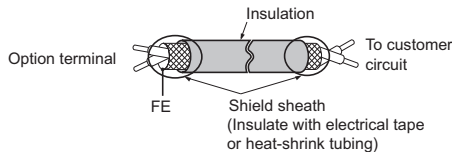
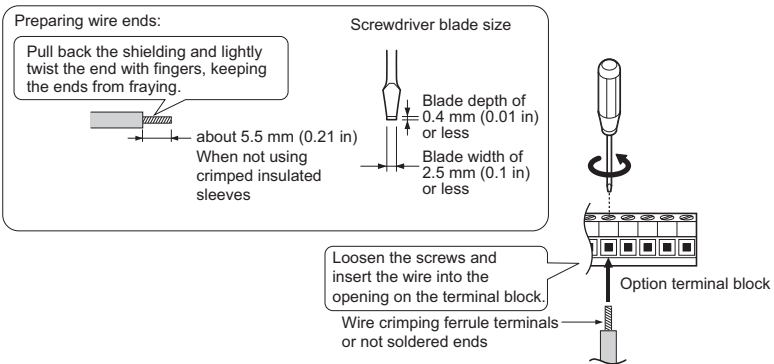

Figure 6 Prepare Ends of Shielded Cable
Figure 7 Connect Cable Wiring
4. Prepare and connect the wire ends as shown in Figure 6 and Figure 7. Refer to Wire Gauges and Tightening Torques on page 37 to confirm that the proper tightening torque is applied to each terminal. Take particular precaution to ensure that each wire is properly connected and wire insulation is not accidentally pinched into electrical terminals.
5. Wire the customer-supplied circuit to the terminal blocks on the option according to Figure 7. Refer to Figure 26 for the DO-A3 Option connection diagram. Refer to Table 5 for a detailed description of the option terminal functions.